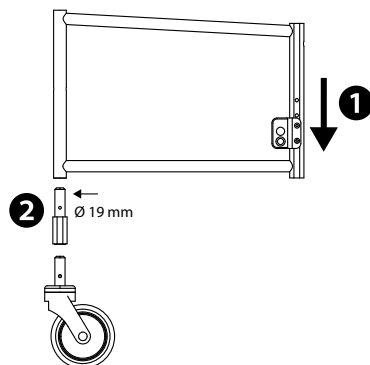

Fig.19
2. Loosen the rear wheel adapter plates and position them in the lower two frame drill holes (1, Fig. 19).
4. Now mount the two height adapters ( $\varnothing 19$  mm) between the frame and the swivel wheel (2, Fig. 19) and screw them onto the frame.